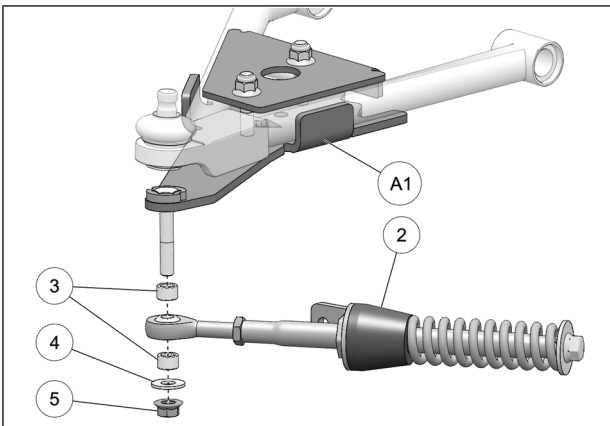

Fig. 19
8. Attach the stabilizing rod (2) to the anchor bracket (A1), using the two spacers (3), washer (4), and nut (5). Torque to 70 N•m [52 lb•ft]. Refer to Fig. 19